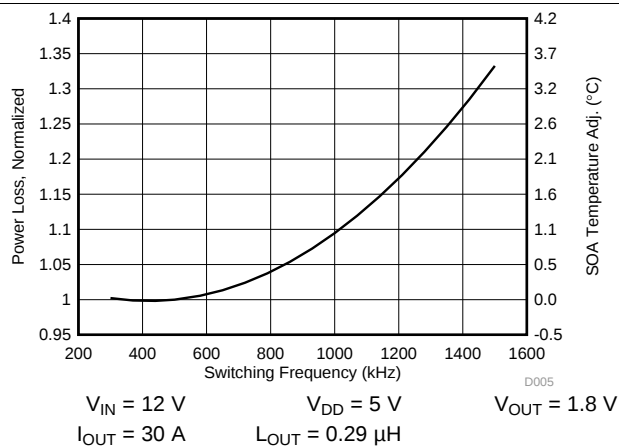

Figure 8. Normalized Power Loss vs Frequency
- Normalized Power Loss for switching frequency ≈ 1.04 (Figure 8)
- SOA adjustment for switching frequency $\approx 0.42^\circ\text{C}$ (Figure 8)